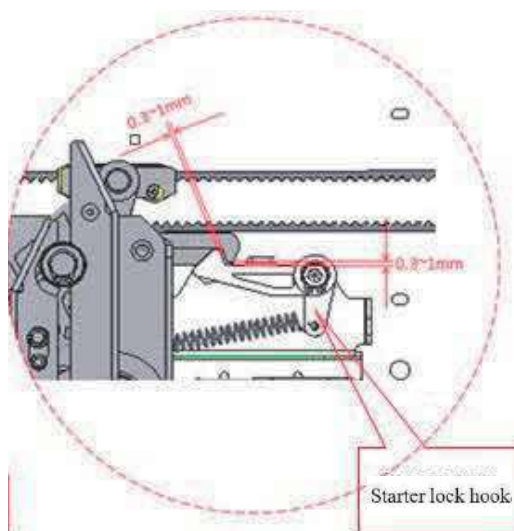

Figure 5-7-2 The adjustment of the skate starter
- 2) Adjustment of the skate starter refer to Figure 5-7-2.